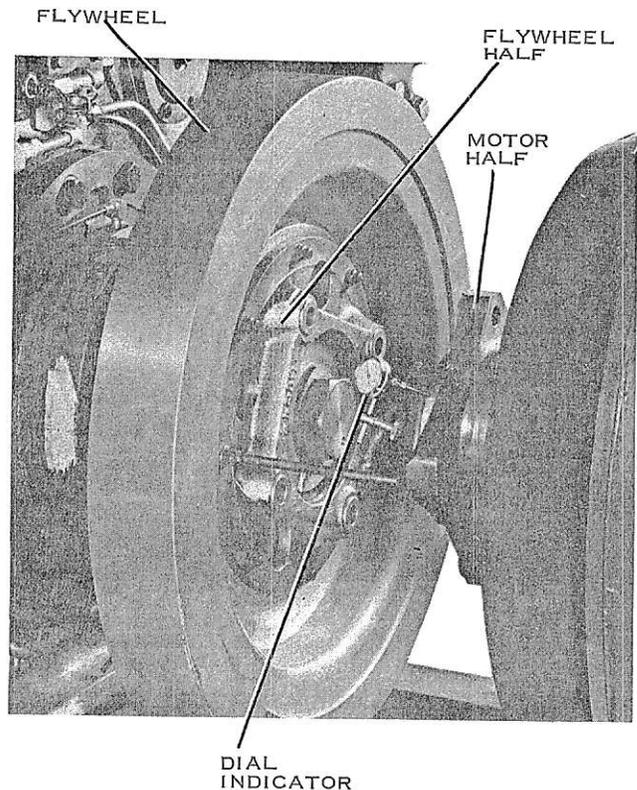

FIG. 10— Checking Parallel Alignment
8. **AXIAL OR PARALLEL ALIGNMENT** - Secure axial or parallel alignment by clamping the dial indicator to the motor hub with its pointer resting on the outside circumference of the compressor hub as shown in Fig. 10. Rotate the motor shaft, observing the fluctuations of the indicator pointer and adjust the position of the motor until the indicator shows minimum fluctuation while the motor shaft is rotated one full turn.
9. Repeat steps (7) and (8) until both angular and axial alignments are correct.